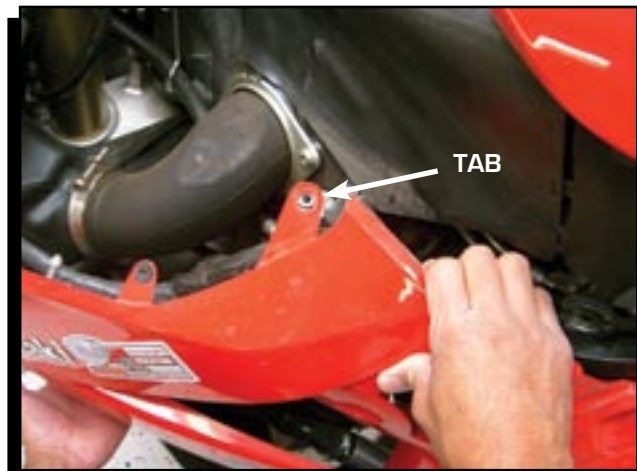

Figure 5 Panel Removal.
5. Lift the panel tab over the boss to release panel (Figure 5).